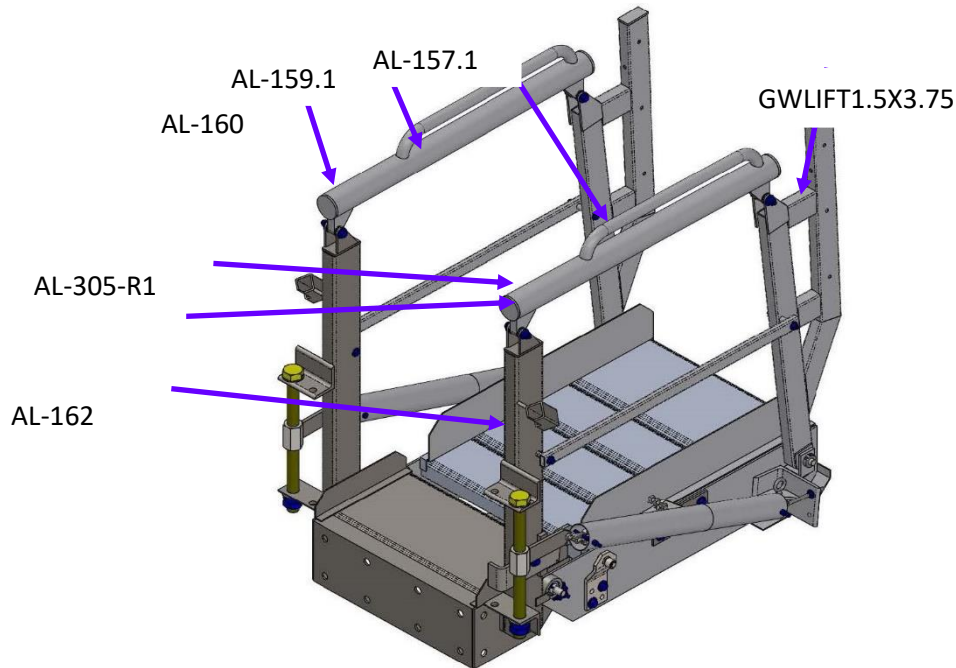

FIGURE 3-1
- iii) **SAFETY LABELS LOCATION** (See Figure 3-1) for safety label locations on this equipment as described in this manual. For TCGs with adjustable uprights, see Figure 7-2 for lift label placement.